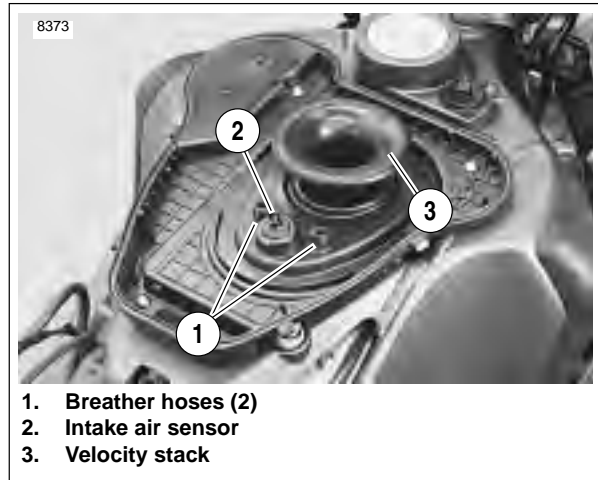

Figure 1-42. Air Cleaner Baseplate Assembly
3. See Figure 1-42. Make sure two crankcase breather hoses (1) and intake air sensor (2) are captured in baseplate behind velocity stack (3).